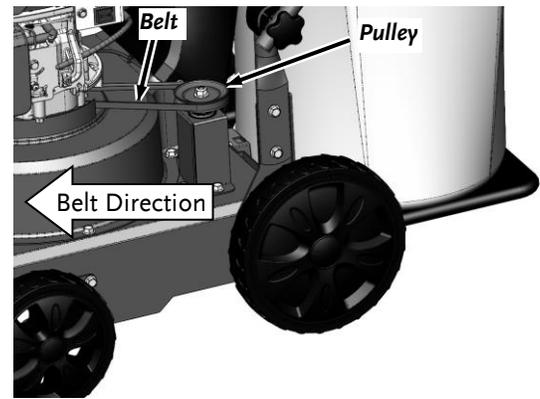

Figure 41
3. Look closely at the Belt to find a small black arrow (**Figure 41**). The black arrow shows the direction of rotation. The arrow would be pointing left when viewed from the left side of the machine. The new Belt will need to be installed in the same direction for the Belt to work properly.